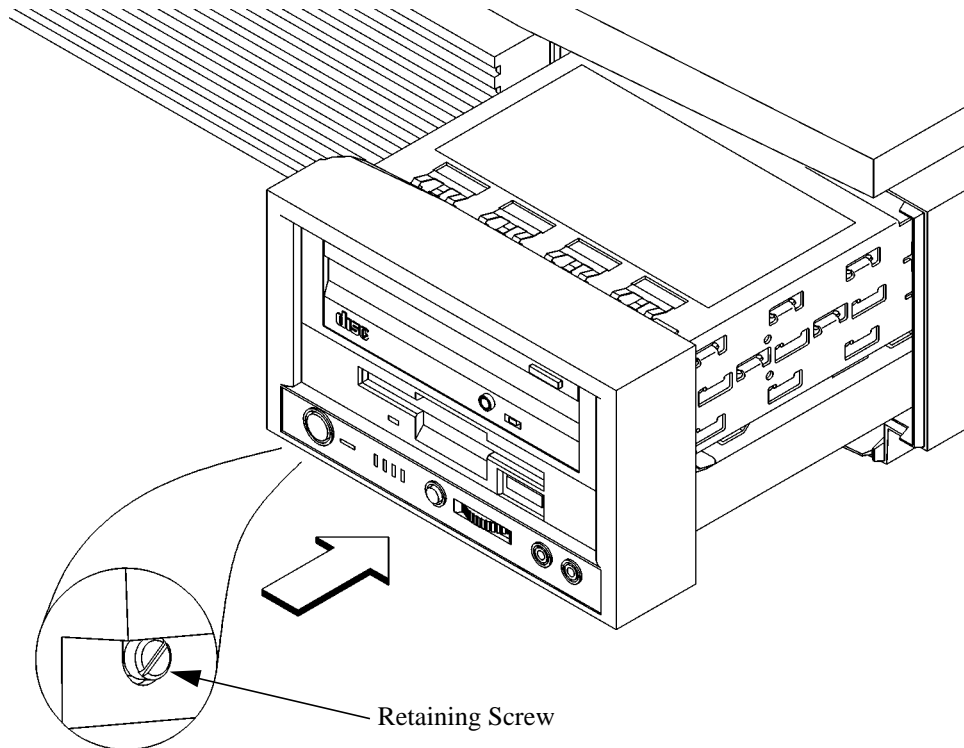

Figure 37 **Installing the Storage Tray Assembly**
- 1 Slide the storage tray assembly into the system unit chassis, as shown in Figure 37.
- 2 Tighten the storage tray retaining screw, as shown in Figure 37.